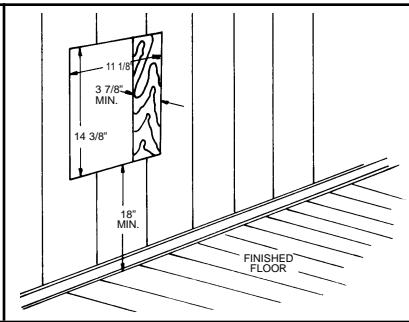

FIG. 4
- Cut an 11 1/8"W x 14 3/8"H opening in the wall, with one 14 3/8" cut along the edge of a wall stud. A strip approximately 3 1/4" thick x 15" long may be nailed to the adjacent stud so that an attaching surface is provided for each side of the housing. (See Fig. 4)